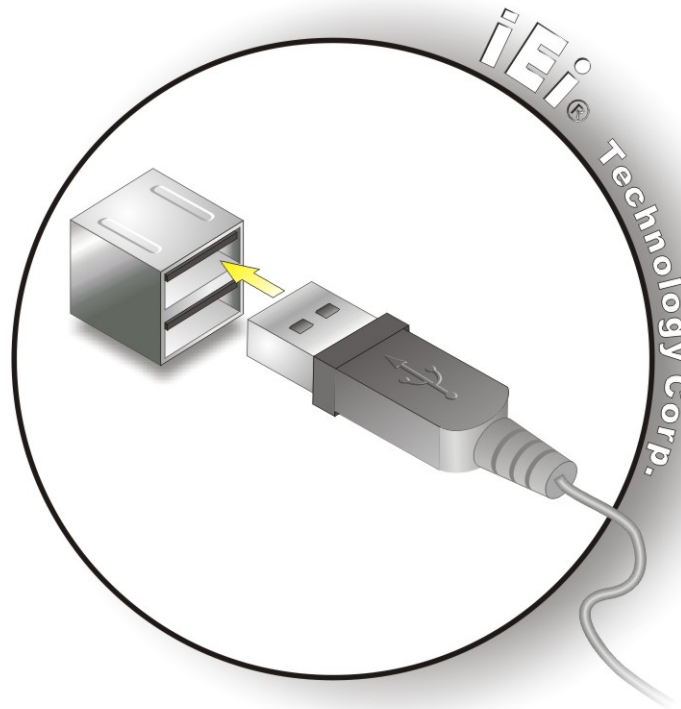

Figure 4-12: USB Connector
Step 2: Insert a USB Series "A" plug. Insert the USB Series "A" plug of a device into the USB Series "A" receptacle on the external peripheral interface. See Figure 4-12.